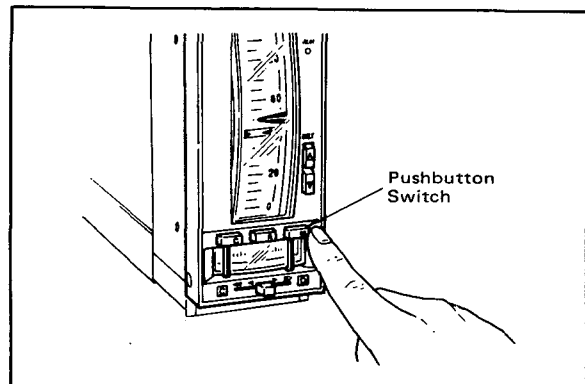

Figure 5-11. Selecting Manual Mode.
- (1) Manual operation with the manual operation lever
- a. Press the  mode transfer switch. (The built-in indicator lamp comes on.) (See Figure 5-11.)